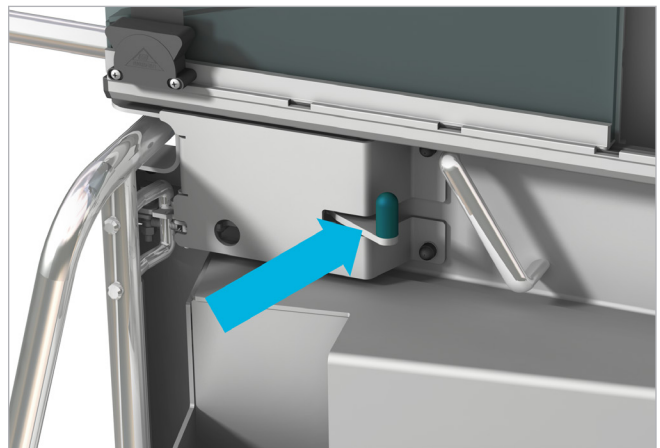

Figure 2 – Push knob in an outward direction.
1. Ensure that the door latch will release without having to apply more than 5lbs. of force to the push knob as shown in **Figure 2**.